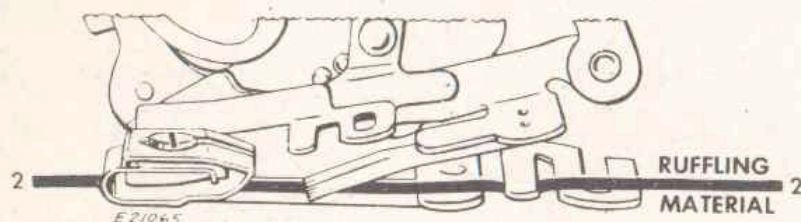

Fig. 64. Correct Position for Material
2. Insert the material to be pleated between two blue blades and under separator guide (Line 2, Fig. 64).